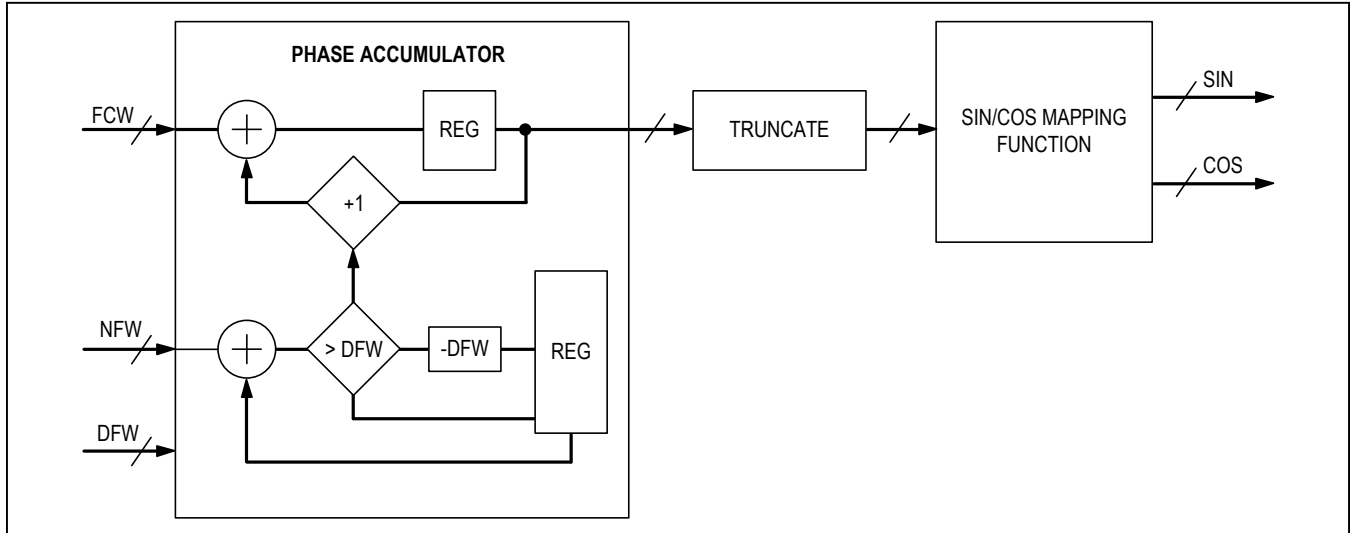

Figure 10. NCO Block Diagram
The default values for NFW (0) and DFW (1) allow the NCO to work like a standard integer NCO with frequency control word FCW. The NCO block diagram is shown in Figure 10.